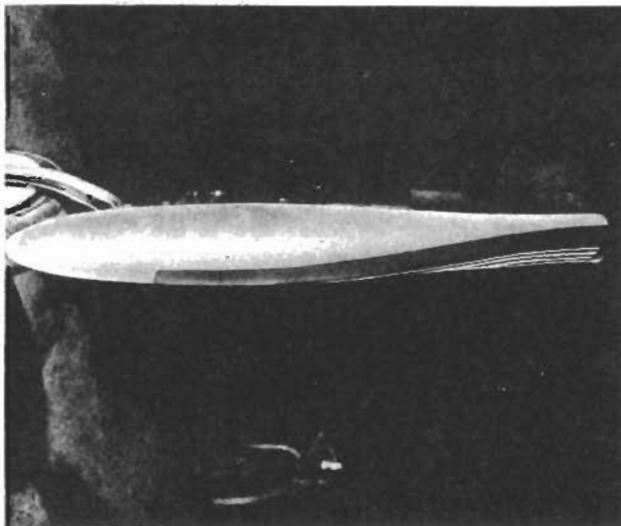

Figure 14 - Propeller De-icer
2. PROPELLER ANTI-ICERS. (See figure 14.)